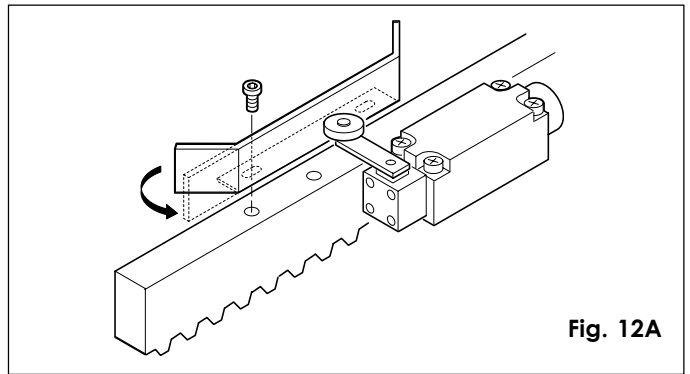

Fig. 12A
The operator is equipped with a mechanical travel stop with roller and trigger. The movement of the gate is stopped when a bent travel stop plate fixed to the top of the rack operates the trigger, tripping the microswitch (fig. 12A).
Note: the travel stop plates may be fastened by means of screws, if desired (fig. 12A).
- a) The limit switch must be tripped by the initial bent part of the travel stop plate, as shown in fig. 12A.
- b) It is advisable to straighten the final bent part of the travel stop plate, as shown in fig. 12A, in order to prevent the plate from passing the limit switch.